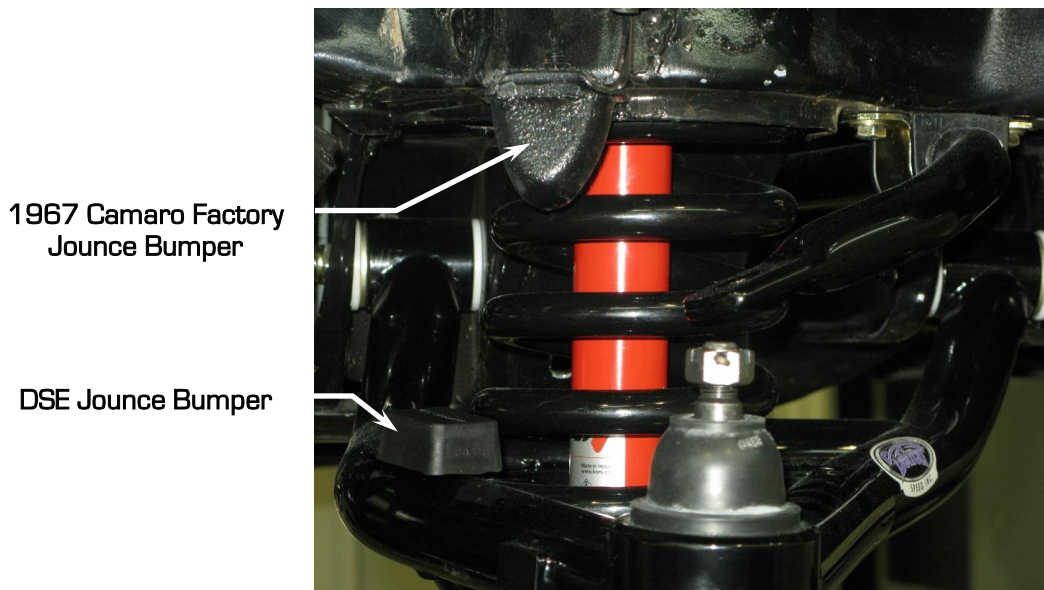

Figure 2 – 1967 Camaro Jounce Bumper
- 3) Install the provided bump stops in the front or the rear bump stop weld tube in the Detroit Speed lower control arms based on your original configuration. The bump stop shelf will be either located on the front side of the subframe shock tower or the rear side. (**NOTE:** On a factory 1967 Camaro front subframe there was also a frame mount jounce pad as shown in Figure 2).